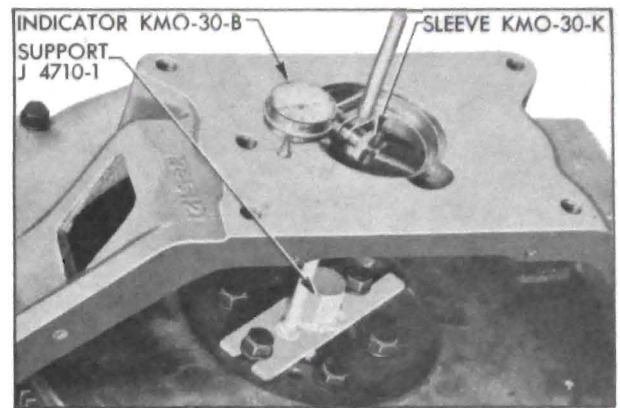

Figure 4-15—Checking Run-Out of Rear Face of Housing
7. Mount dial indicator to bear against rear face of flywheel housing at a radius of 2 1/2", as shown in figure 4-15.